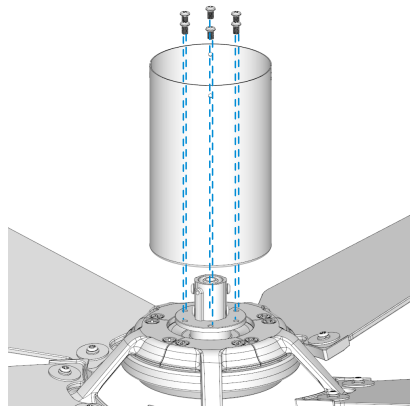

Fig. 3.2
3.2 Find the 6 bucket screws in the hardware pack and use them to secure the fan bucket to the motor housing. Ensure that all screws are tightened firmly, then place the control box into the fan bucket, as depicted in Fig. 3.2.